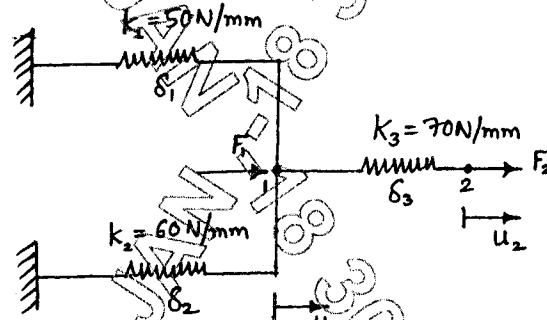

Fig. Q1(b)
- b. For the spring system shown in Fig. Q1(b). Using the principle of minimum potential energy, determine the nodal displacement. Take :  $F_1 = 75N$  and  $F_2 = 100N$ . (10 Marks)